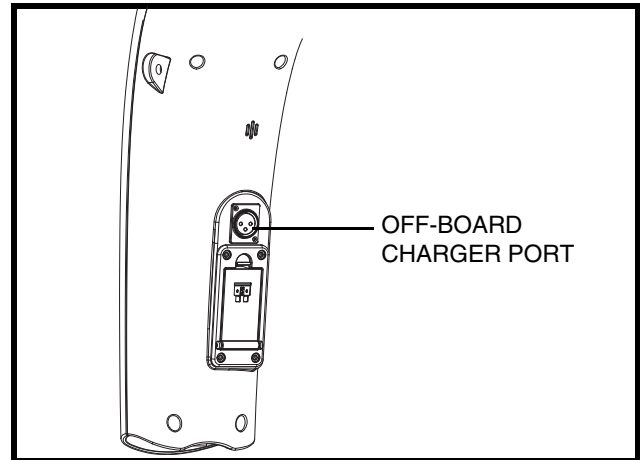

Figure 5. Off-board Charger Port (Tiller Mounted)
The off-board charger power lead plugs into this port during battery charging. The off-board charger port will be located on the tiller. See **figure 5**.
5. Plug the 3-pin charger power lead into the off-board charger port. **See figures 5 and 10A.**